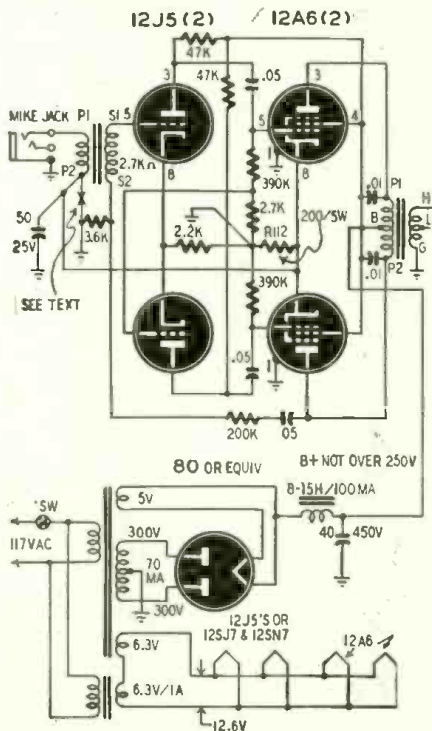

Fig. 1—The amplifier for carbon microphone.
A. Fig. 1 shows the interphone amplifier as it may be converted for use with the carbon microphone. Terminal P2 on the input transformer is disconnected from ground at X and connected to the cathodes of the 12A6's as a source of voltage for the microphone. A 50- μ f, 25-volt cathode bypass capacitor must be added. The microphone jack should be a Mallory type SCA-2B or Signal Corps type JK-33-A.